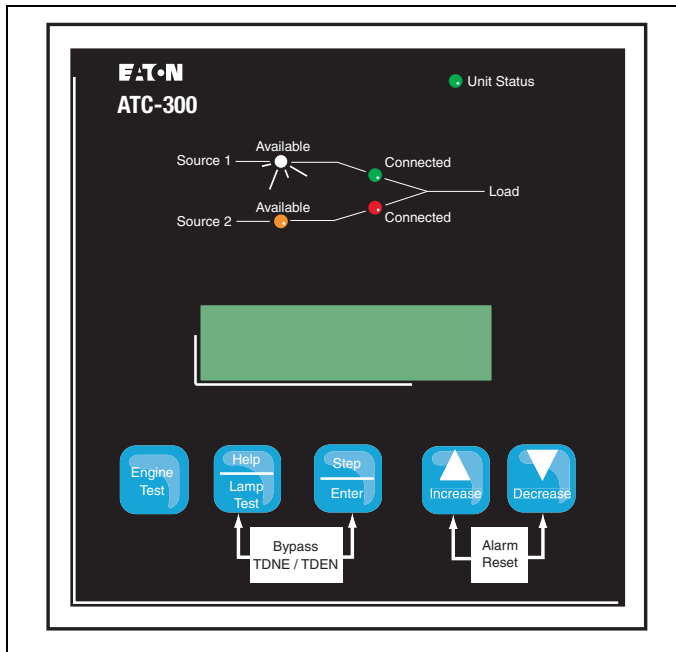

Figure 23. ATC-300 Logic (Utility Supplying Load).
Step 5: Apply Utility (Source 1) power. If the switch is properly applied for the system voltage ordered, the display should work and the Source 1 Available white LED should light (Figure 23). Using a voltmeter, check for proper system voltage on Source 1 and load terminals. Check all phases on a 3-phase switch. Voltage measurements should be taken phase to phase and phase to neutral.